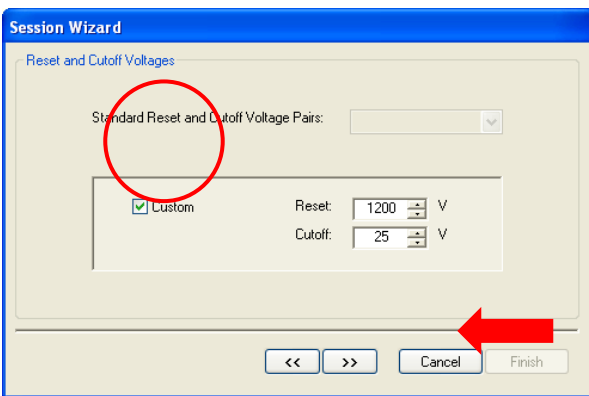

Figure 40: Check the Custom Box and Manually Enter Reset and Cutoff Voltages
- b. Checking the **Custom Box** allow entry of any two pair of voltages necessary for the evaluation. Figure 40.